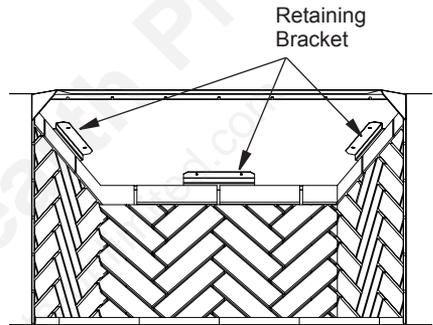

Figure 15 - Installing Side Walls
3. Secure the firebrick wall using 2 of the retainers provided. The bracket will slip underneath the metal lip on the top of the wall and screw into the inner dome of the fireplace (Figure 15).
4. Install the rear firebrick wall last. Place the wall face side down on the hearth with the bottom of the wall toward the rear of the fireplace and the top toward the front of the fireplace. Tilt the wall up toward the back of the firebox. Secure with remaining retaining brackets provided (Figure 15).